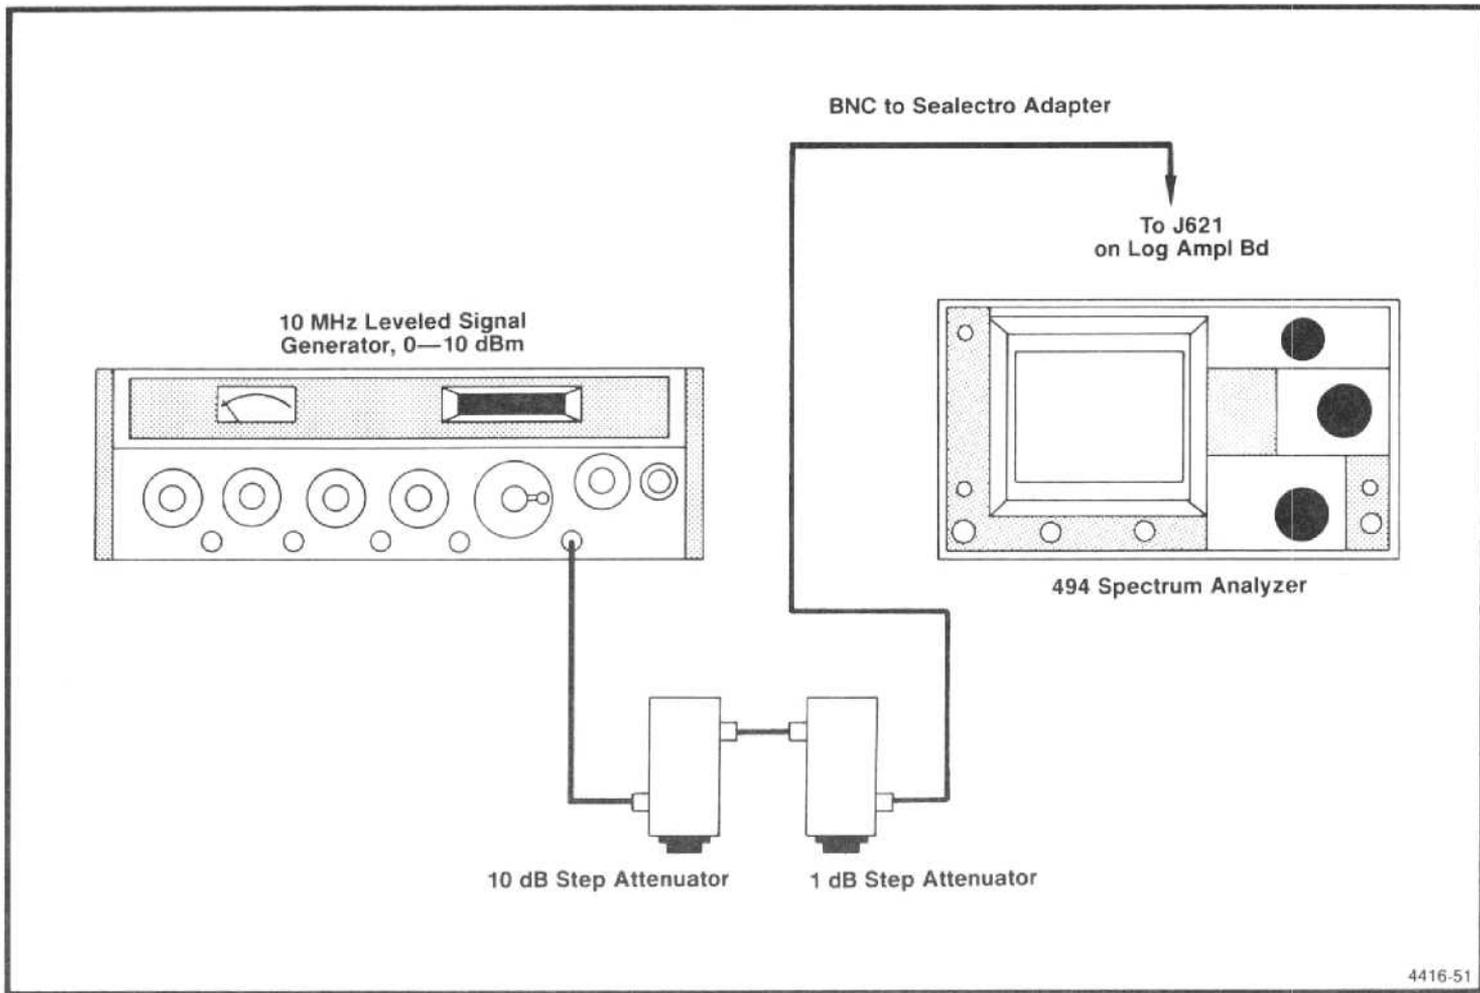

Figure 5-16. Test equipment setup for calibrating the Log Amplifier.
c. Test equipment setup is shown in Figure 5-16. Set the REF LEVEL to -60 dBm, FREQUENCY to 2 MHz, FREQ SPAN/DIV to 2 MHz, and the TIME/DIV to 10 ms. Activate AUTO RESOLN and 10 dB/DIV.